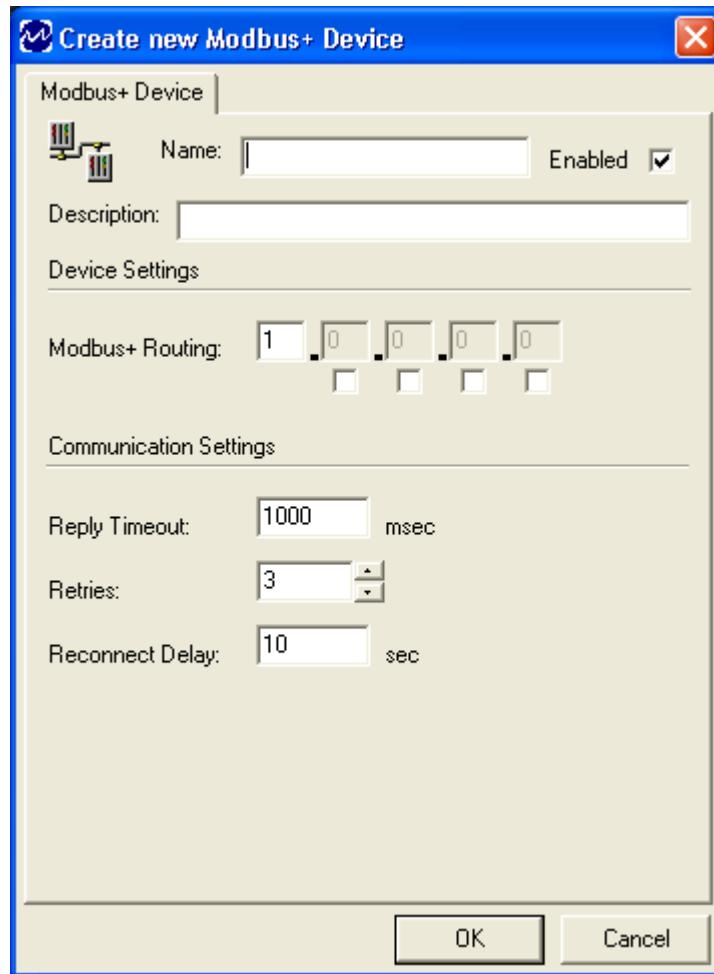

Figure 9 - Create New Modbus+ Device Window
**Note:** A **Modbus+ Device** can be created as a child of a **Modbus+ SA85 or PCI85 Card**. The **Create New** window (Figure 9) displays the settings available for a connection to a Modbus+ Device.
5. The **Create New** window (Figure 9) appears.